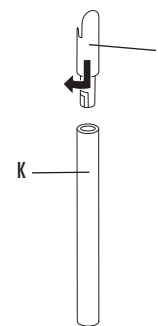

Figure 4
5. Secure the Rear Grill to the Motor Housing by tightening the Rear Grill Mounting Nut. Refer to Figure 4 for the correct positioning of the Rear Grill to the Motor Housing.